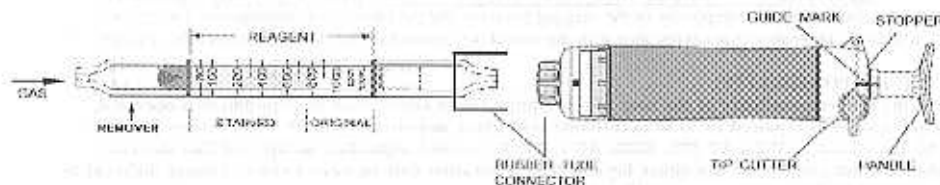

Fig.1
- ② Insert the detector tube into the aspirating pump securely as shown in Fig.1. [Arrow mark shall point to the pump.]
- ③ Align the guide marks on the shaft and stopper of the aspirating pump.
- ④ Pull the pump handle at a full stroke until it locks and wait for 1 minute or until the completion of sampling is confirmed with the flow indicator of the pump. [See descriptions about the flow indicator in the instruction manual of the pump].
- ⑤ On completion of sampling, read the scale at the maximum point of the stained layer.